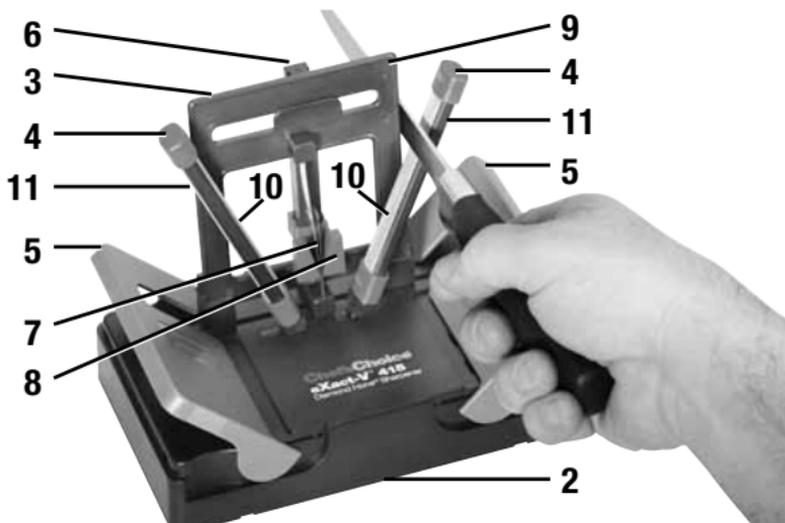

Figure 1.
Refer to Figure 1 which shows the fully assembled sharpener with the knife guiding assembly (3) and the two sharpening rods (4) mounted on the supporting base.